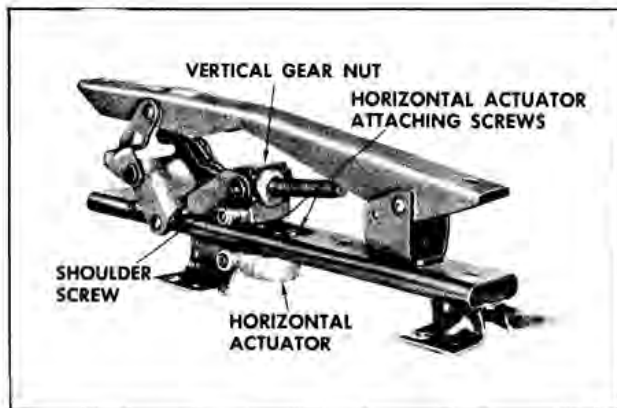

Fig. 16-385 Seat Adjuster - Four-Way (Tilt)
4. Using a clutch-type screwdriver or other suitable tool, remove shoulder screws securing linkage to vertical gearnut being replaced. (Fig. 16-385)
3. Remove screws securing horizontal actuator assembly to adjuster lower track; then remove actuator from adjuster assembly. (Fig. 16-385)